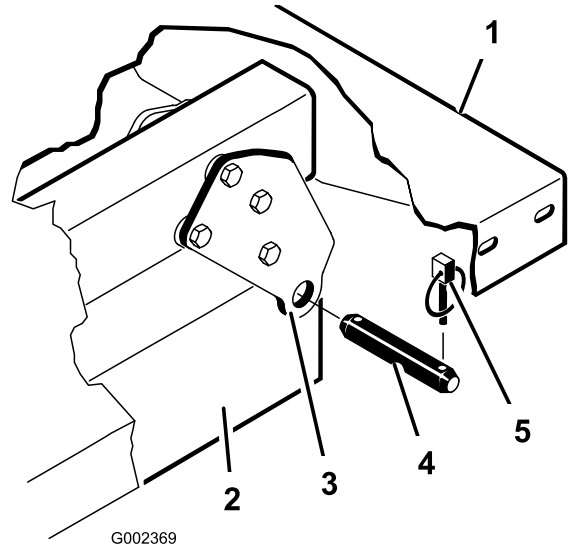

Figure 36
3. Remove the clevis pins securing the cylinder rod ends to the bed mounting plates by pushing the pins towards the inside (Figure 36).
4. Remove the lynch pins and clevis pins securing the pivot brackets to the frame channels (Figure 36).
Note: Ensure that the rear pivot plates are bolted to the bed frame/channel so that lower end angles to the rear (Figure 36).
2. Carefully set the bed onto the vehicle frame aligning the rear bed pivot plate holes with the holes in the rear frame channel and install 2 clevis pins and lynch pins (Figure 36).
3. With the bed lowered, secure each cylinder rod end, to the appropriate slots in the bed mounting plates with a clevis pin and lynch pin. Insert the clevis pin from outside of the bed with the lynch pin toward the outside (Figure 36). The rear slots are for a full bed installation and front slots are for a 2/3 bed installation.